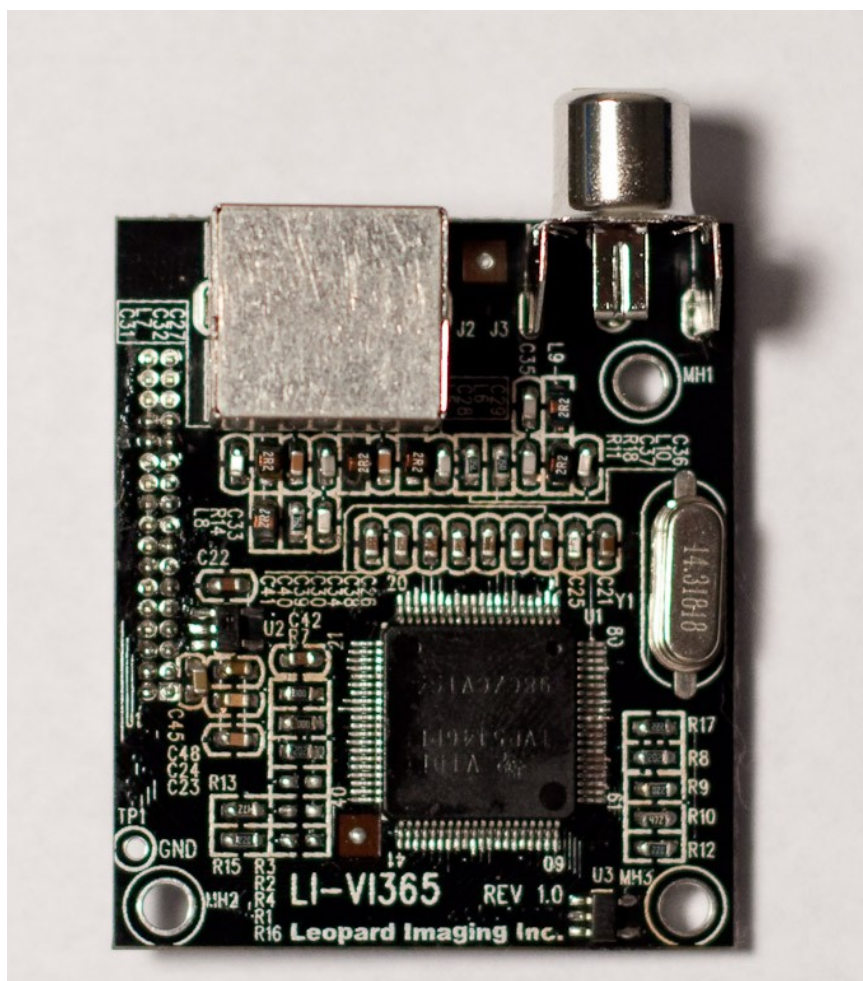

Figure 17. Video Input Board
1.2.6 Video Input board, see Figure 17